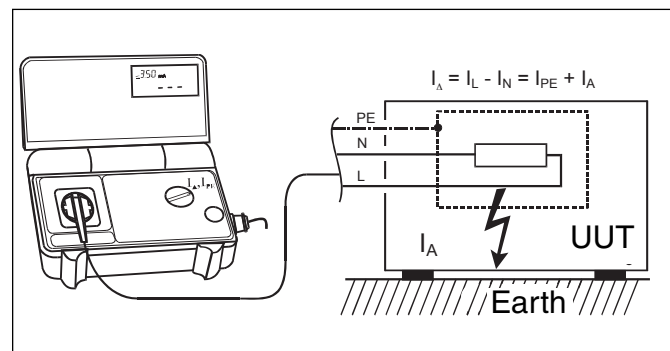

Fig.7.39
- Connect UUT to test / mains socket (Fig.7.39):